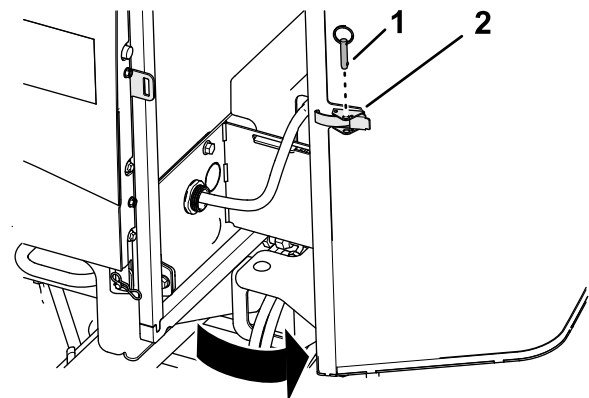

Figure 98
1. Remove the ball pin from the screen latch (Figure 98).